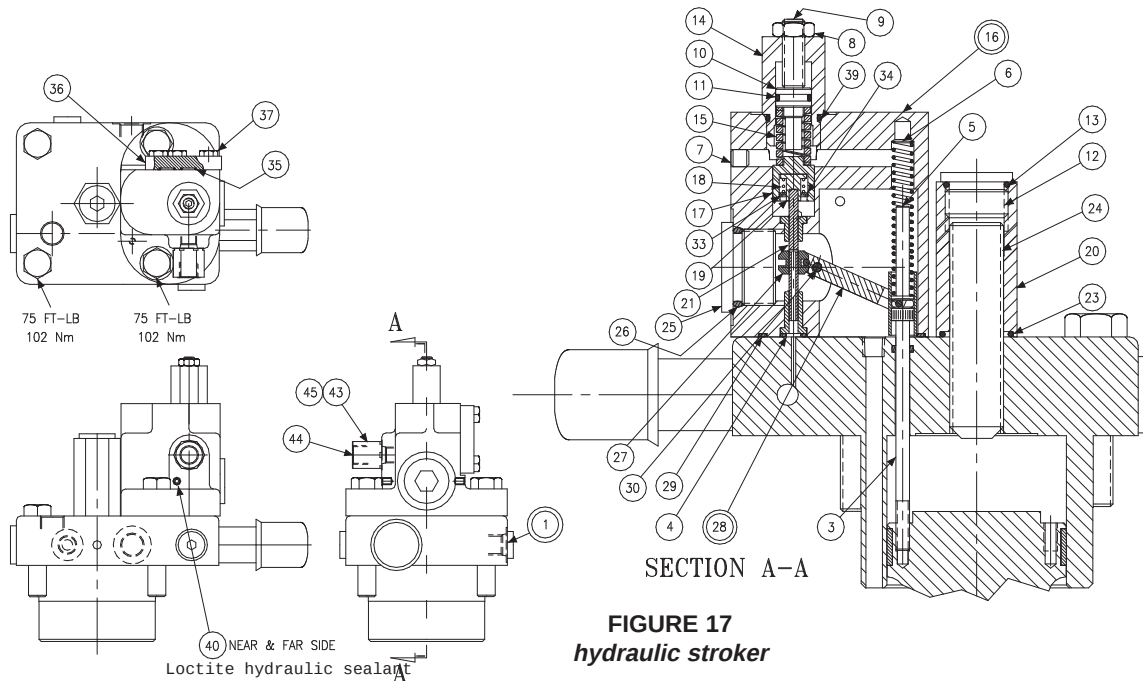

FIGURE 17
PARTS LIST FOR FIG. 17
1. **See figure 17.** Remove 2 screws holding body (16) to cap assembly (1).
2. Remove all parts from body (16) except pin (30) and arm assembly (28). It is not necessary to remove these parts unless broken or worn. Examine parts for wear or damage.
3. Remove screw (3). Examine head for excessive wear, and body for smooth sealing surface with O-ring.
2. Install spool (4) into bore as shown. Install spring (8) over end of spool.
3. Install O-ring (13) on spring retainer (12). Install retainer (12), screw (14), and nut (15) in plug (3).
4. Install O-rings (7) and (16) on plug (3). Install plugs (3) and (9) in body (1). Install orifice (20) and plugs (10). Torque plugs. Install O-ring (5) in cap.
5. Turn screw (14) in until spring retainer (12) contacts spring (8). Turn an additional 1-1/2 turns and lock in position.
8. **See figure 17.** Apply Loctite 242 on threads of screw (3), lubricate the shank, thread through the cap into the control piston, and torque to 5 lb.·ft., 6,78 N·m.
9. Install minimum stop screw (24) and turn clockwise to stroke pump to full volume. Measure height from control cap to top of screw (3). With control piston at full stroke, dimension must be .45 +/- .03 in., 11,4 +/- 0,76 mm. Back out minimum stop screw (24) till there is no contact with control piston.
10. Press dowel (30) into body (16), through the link (28), to 1/4", 6,35 mm below surface. Apply Loctite hydraulic sealant to threads of screws (40) and install over dowel (30).
11. Press spool (21) into retainer (19). Caution: do not use excessive force. Place spool/retainer assembly into spool (17) with spring (18) and washer (34). Secure with retaining ring (33).
12. While sleeve (27) is engaged into dowel on link (28), slide above spool assembly into bore of body (16), and through sleeve (27). Spool (21) must move freely and easily at all positions of the link (28).
13. Assemble all other components into body (16) per above drawing. Torque plug (12).
14. While spring retainer is engaging clevis pin (5) under dowel of link (28), slide the other opening of spring retainer over the top of the screw (3). Attach body assembly (16) to cap (1) with two screws and torque to 75 lb.·ft., 102 N·m.